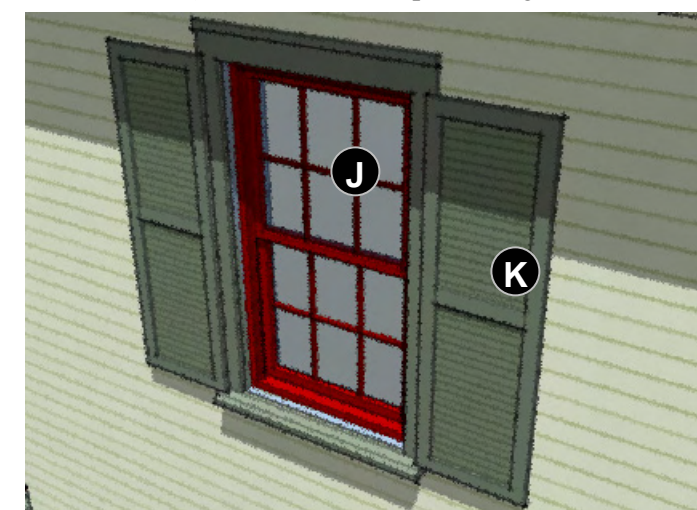

Fig. 6: If window shutters are used, they should be used consistently on all facades, and should appear to completely cover the window opening if closed.
Window shutters, if used, should be used consistently on all exterior windows. Additions to existing homes which have shutters should try to match the same general type, style and materials of the shutters on the original building whenever possible. **(K) in Fig. 6.** The use of shutters on some facades of the home and not others is not recommended.
If window shutters are used, they should be properly mounted on both sides of each window so as to give the appearance that they would completely cover the openings when shut. **(K) in Fig. 6.** Avoid mounting shutters on only one side of a window, or on either side of a wide window. The exception to this is when you have a group of two windows mounted together to form a larger window, it is generally acceptable to place a shutter on either side of the group. **(L) in Fig. 7.**
Try to avoid using window screens which have a metal or reflective appearance which can obscure the window behind it in sunlight. Darker grey or black screen is often the best for this. (J) in Fig. 6. Window screens should ideally be mounted so that they are recessed back into the window *casing*, and not flush or protruding from it.